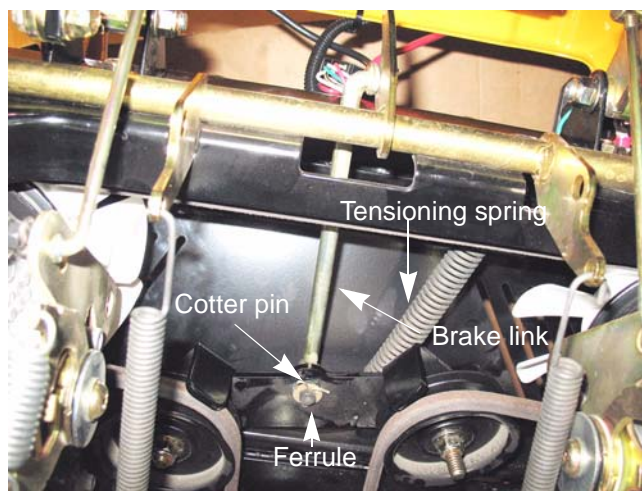

Figure 5.7
3. Remove the cotter pin and washer from the ferrule on the end of the brake link. See Figure 5.7.